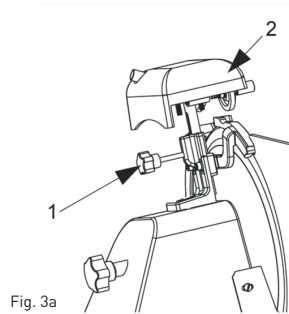

Fig. 3a
- unscrew the knob (1, Fig. 3a), lift the sharpener (2, Fig. 3a) up to the locking position and rotate it 180°.